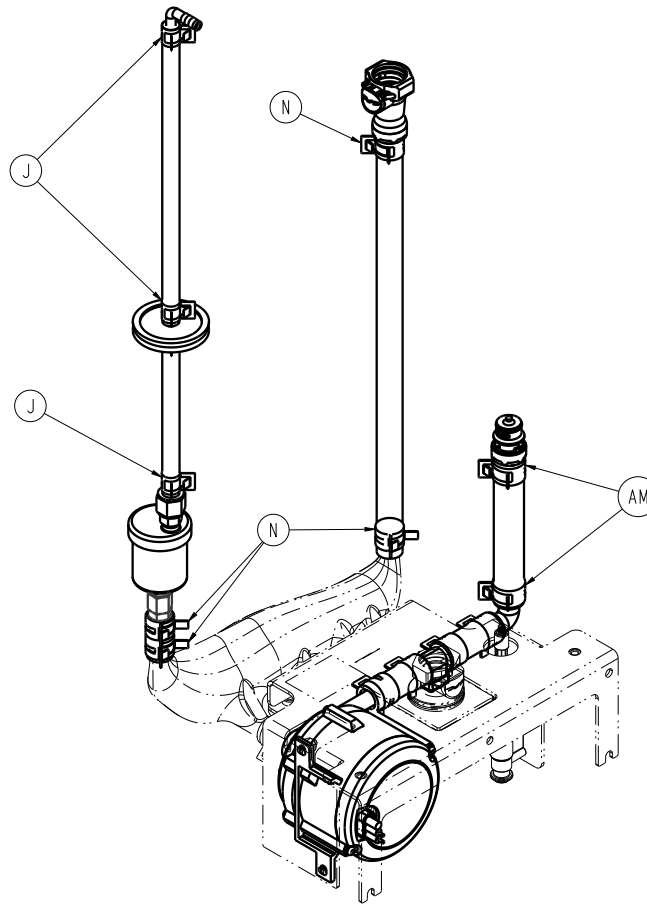

Figure 20 – Secure tubing
5. Using needle nose pliers, remove the two hose clamps (N) that secure the tubing to the reservoir (Figure 20).